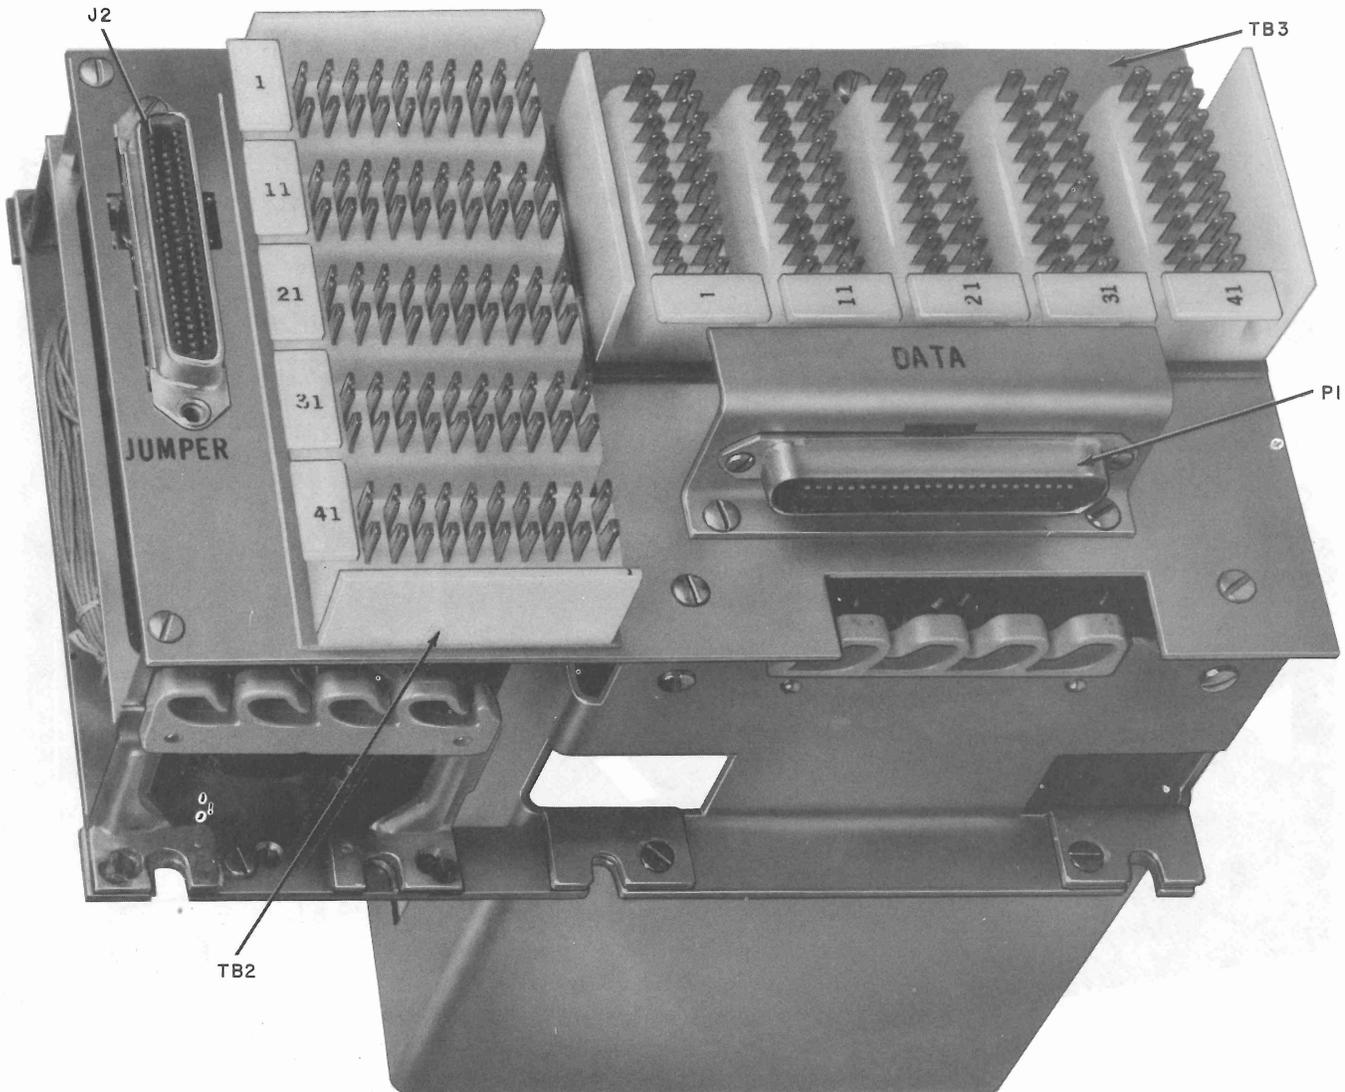

Fig. 2—Rear View of DAS 828A-L1 Showing Connectors and Terminal Blocks
2.02 Figure 2 shows the two 66-type connecting blocks, a 50-pin connector, and a 50-pin plug mounted to a plate on the rear of DAS 828A-L1.